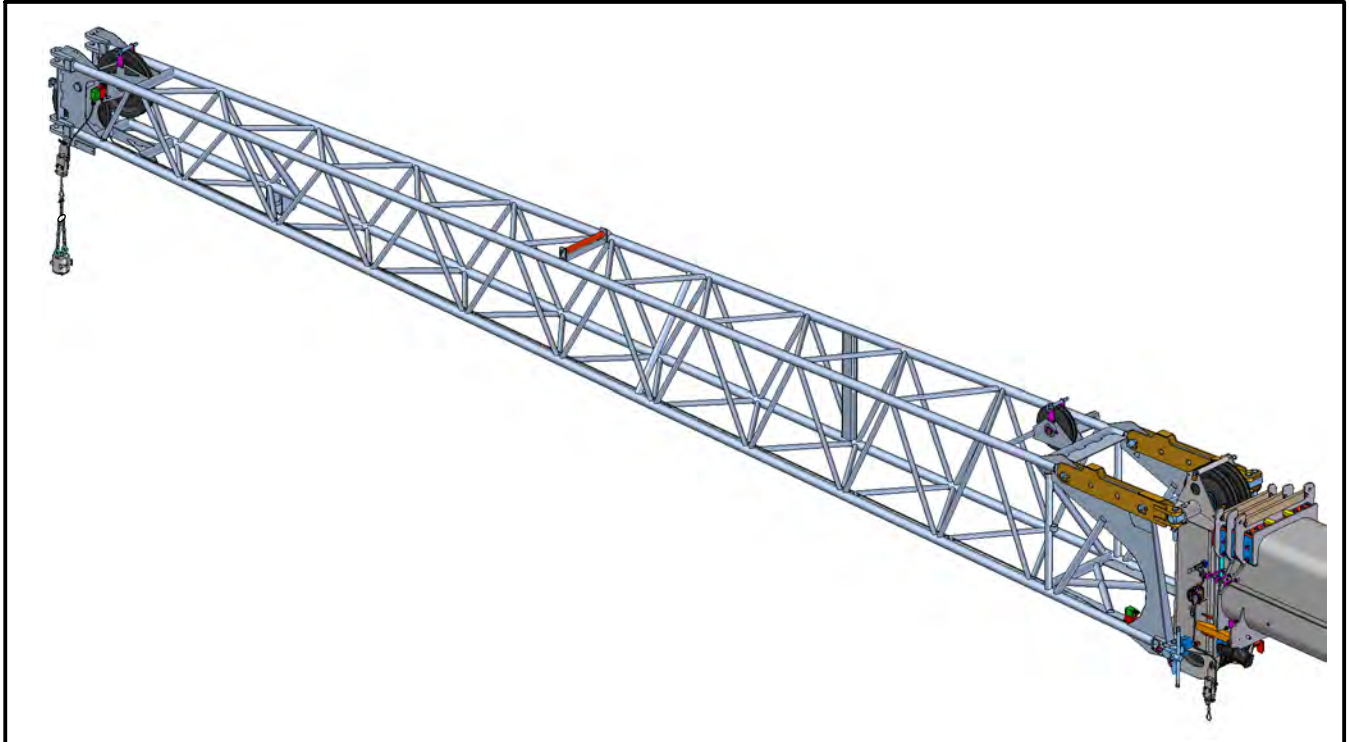

Figure 4–4
4. Use care handling the fly section(s) or extension(s) when loading, transporting, and unloading. Damage that occurs during these operations can go undetected and could result in failure of the attachment, once subjected to loading. Do not attach slings to the lattices, when lifting the fly, as they will bend. It is recommended that the connecting lugs and/or head machinery cross shaft be used as the lifting points. However, it is permissible to attach nylon straps around all four main chords. Refer to Figure 4–3.
The crane may be equipped with a 38 ft (11.6m) one piece offset lattice fly. The offset lattice fly, as shown in Figure 4–4, connects to the main boom head. It can be mounted in one of four offset positions: 2°, 15°, 30°, or 45°. Once installed, the offset lattice fly can be stored on the right side of the boom base section.